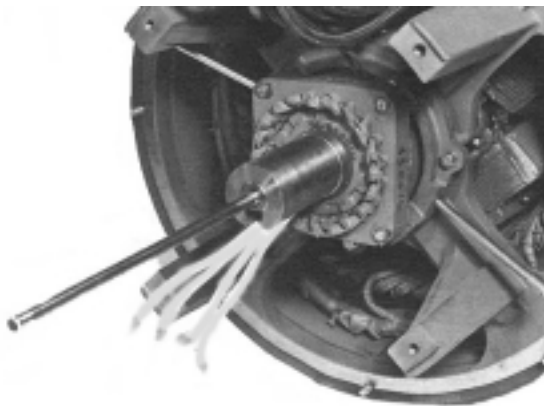

Figure 6-70
1. Attach a wire to the main rotor leads and feed the wire through the armature bore and the lead hole in the aluminum standoff plate. On larger exciters, it will be helpful to install a guide pin in the end of the shaft to support the armature while fishing the rotor leads through. (Figure 6-70.)